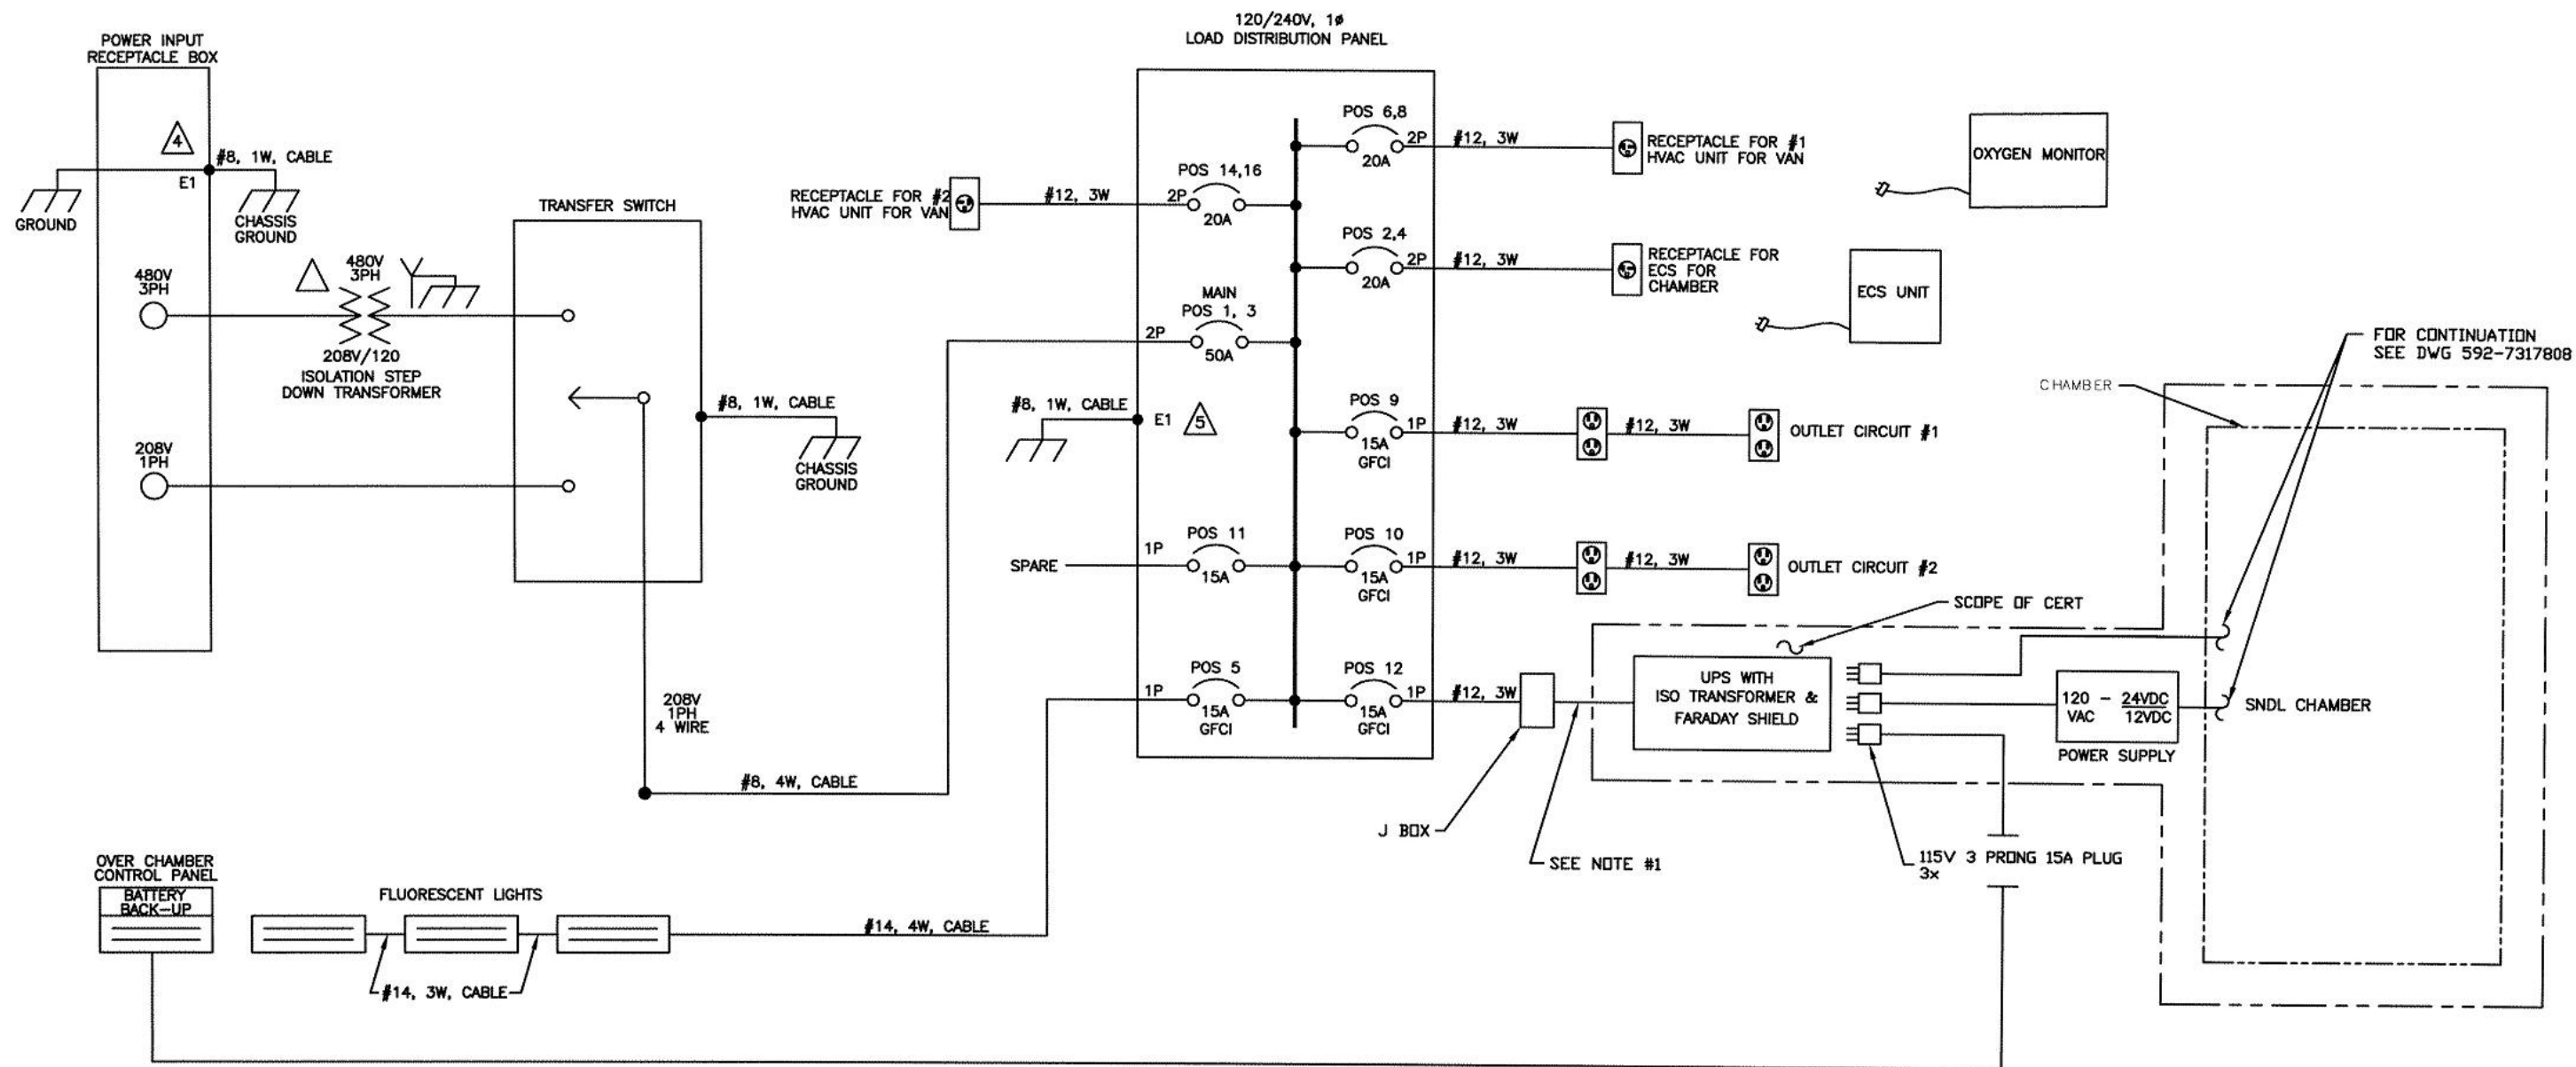

Figure 3-5. SSDLRCS Van Power and Lighting Schematic
**3-2.3.6 Electrical Schematics.** The power and lighting for the SNDLRCS van is shown in Figure 3-5. This figure is continued in Figures 3-6 and 3-7, which provide the electrical schematic for the SNDLRCS recompression chamber.